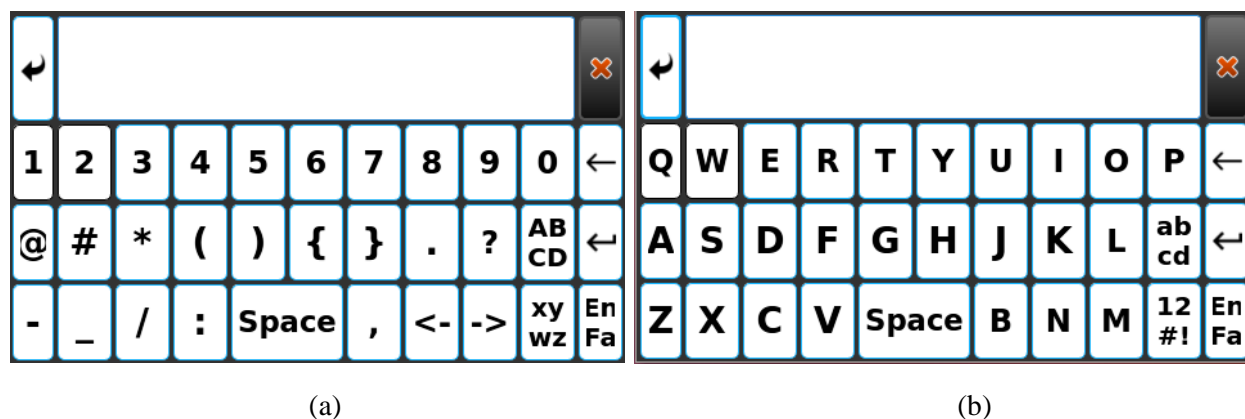

Figure 7-2 Virtual keyboard (a) numbers and symbols, (b) characters
**Search:** Enter patient name/ID in on-screen keyboard (figure 7-2) and press Search to view all stored data for the patient.